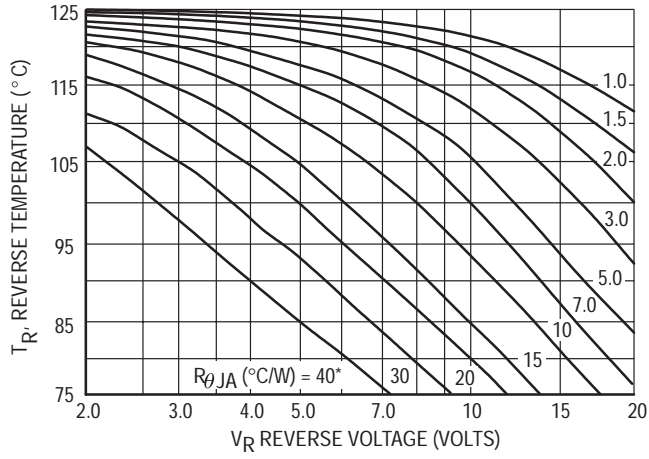

Figure 1. Maximum Reference Temperature – 1N5832
Figures 1, 2, and 3 permit easier use of equation (1) by taking reverse power dissipation and thermal runaway into consideration. The figures solve for a reference temperature as determined by equation (2):
Inspection of equations (2) and (3) reveals that T_R is the ambient temperature at which thermal runaway occurs or where $T_J = 125^\circ\text{C}$, when forward power is zero. The transition from one boundary condition to the other is evident on the curves of Figures 1, 2, and 3 as a
difference in the rate of change of the slope in the vicinity of 115°C . The data of Figures 1, 2, and 3 is based upon dc conditions. For use in common rectifier circuits, Table 1 indicates suggested factors for an equivalent dc voltage to use for conservative design, i.e.: